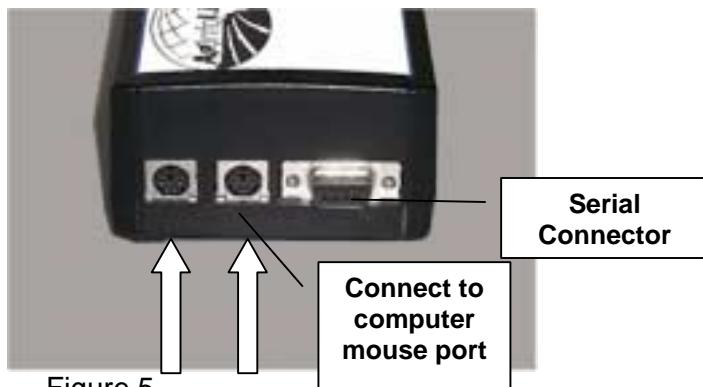

Figure 5
- The included PS-2 extension cable provides power to the Host Interface. If you are using a desktop PC, unplug your mouse, and connect the PS-2 cable from the Base Station into your mouse port. You can connect your mouse to the mouse port on the Base Station. (See figure 5)